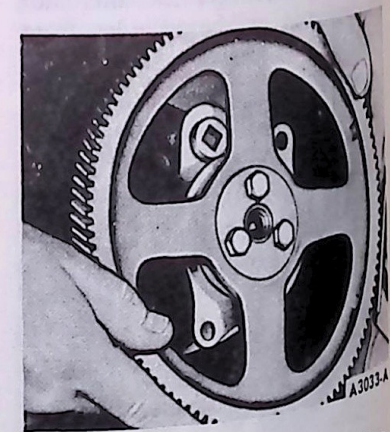

FIG. 21 Removing or Installing Camshaft
6. Remove the camshaft thrust plate attaching bolts. Remove the camshaft gear, spacer, thrust plate and camshaft as an assembly (Fig. 21).